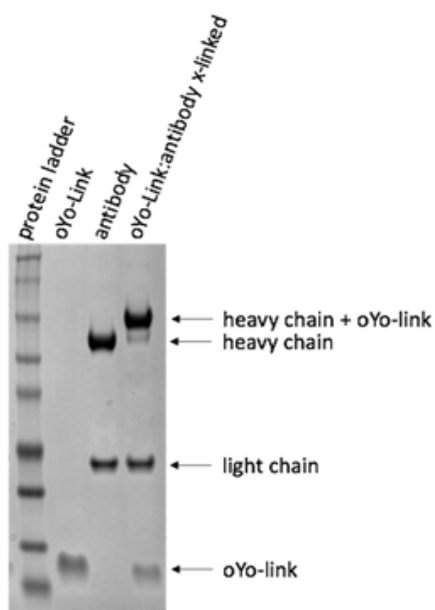

Figure 1: Photo-crosslinking efficiency shown by SDS-PAGE
- In general, load 1 μg of unconjugated antibody and 1 μg of conjugated antibody into two different wells of a gel for SDS-PAGE. Check your protein gel and staining system's recommendations for protein loading, which may deviate from 1 μg . Under reducing conditions, the oYo-Link-conjugated IgG heavy chain will appear as a higher molecular weight band (i.e. shifted upward) compared to the unconjugated IgG heavy chain, as shown in **Figure 1 below**.